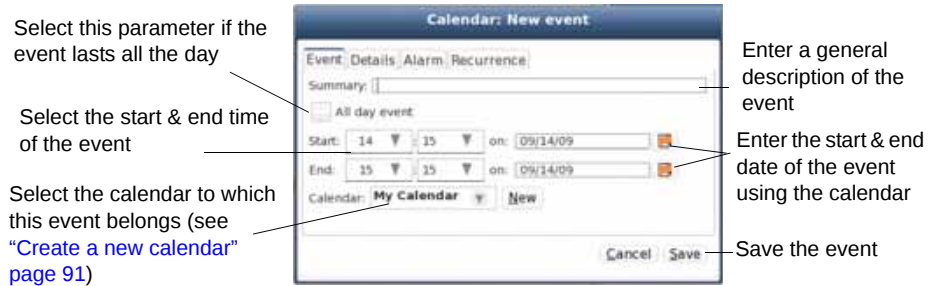

Fig. 53 Calendar: create a new event
- **Event** tab: enter the event description, date and time (see Figure 53 on page 90)